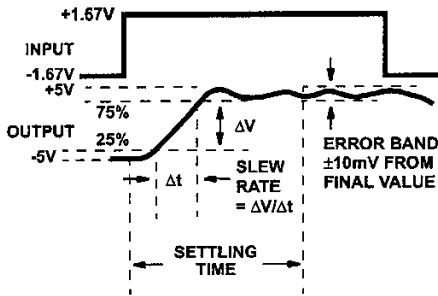

Figure 2. Slew rate and settling time
18. See figure 2 and 5
19. See figure 2 and 4